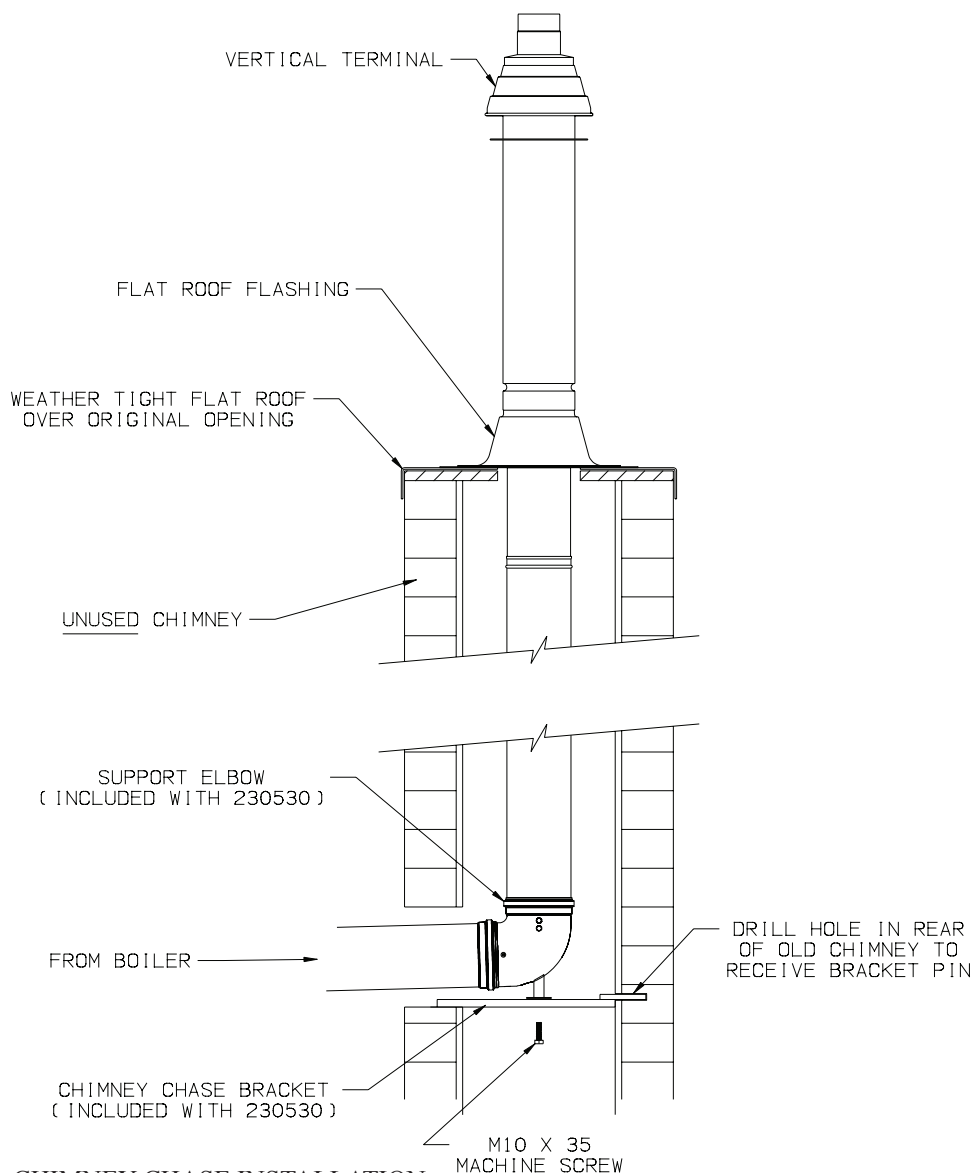

FIGURE 7.36: CHIMNEY CHASE INSTALLATION
7) Chimney Chase Installation - A vertical 80/125mm vent system can be installed in an unused masonry chimney. This installation is similar to other vertical installations with the following exceptions (Also see Figure 7.36):